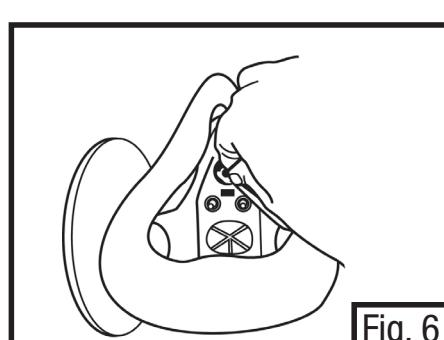

Fig. 6
8. Install the retainer clip and suction cup onto the sampling tube inside the respirator facepiece. (Fig. 6)